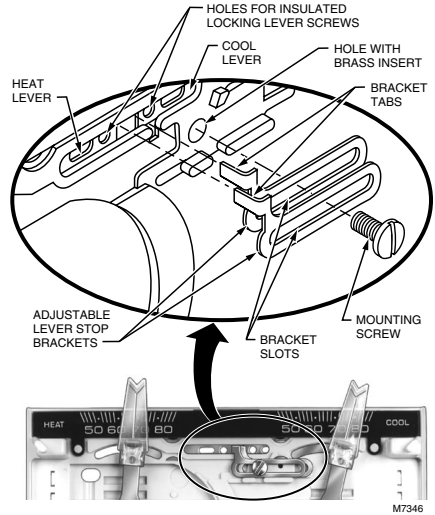

Fig. 12. Installing adjustable lever stops.
- 6 Tighten the screw. See Fig. 12.